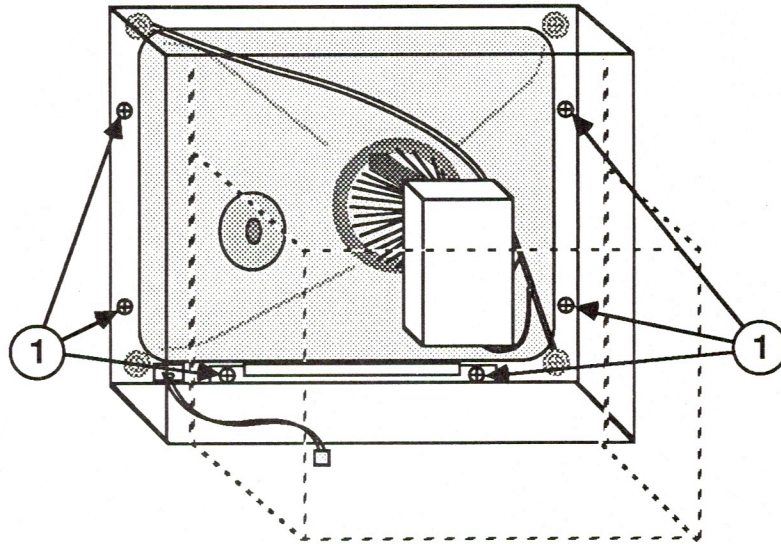

FIGURE 15
6. Remove the six screws holding the chassis in place (Figure 15, #1).
3. Replace the six chassis screws (Figure 15, #1).